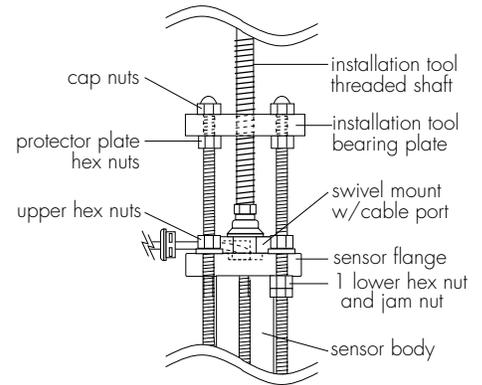

Fig. 18
E. Wearing safety face protection, turn the installation tool shaft **counterclockwise** to withdraw sensor until the sensor flange contacts the upper hex nuts. (Fig. 18)